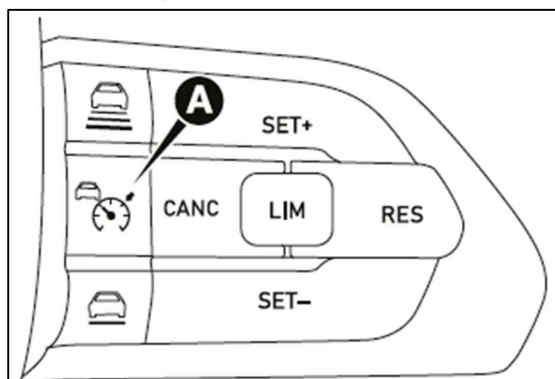

Fig. 9
To activate, press button (A) (fig. 9). The symbol will appear on the instrument panel to show activation.